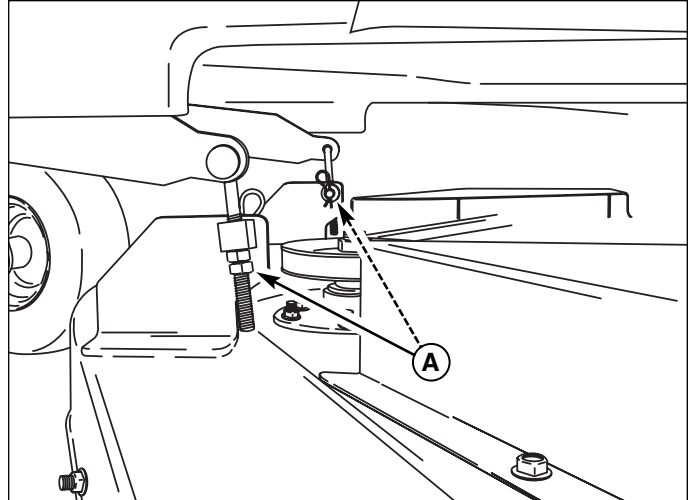

Figure 19. Mower Leveling - Front-to-Back
8. To adjust the front of the mower deck, use the adjusting nuts on the front deck lift rods (A, Figure 19) until the desired measurement is achieved. Be sure to adjust both sides the same amount.